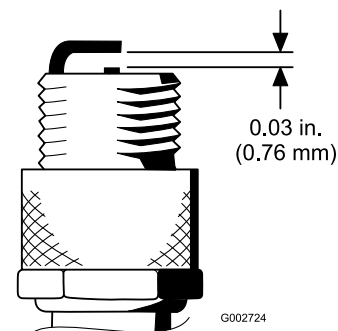

Figure 28
4. Set the air gap between the center and side of the electrodes at 0.030 in. (0.76 mm) (Figure 28). Install the correctly gapped spark plug with gasket seal, and tighten the plug to 200 in-lb (23 N-m). If a torque wrench is not used, tighten the plug firmly.